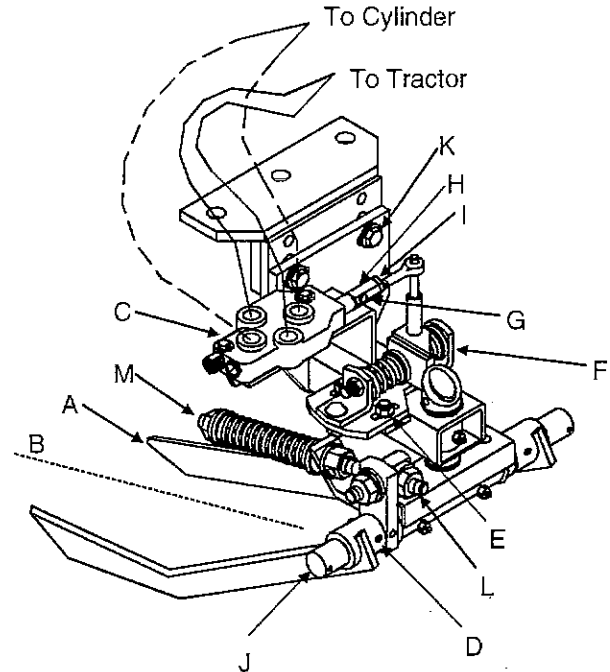

Figure 19. Row Finder.
The optional row finder helps keep your harvester on the rows. The feeler arms (Figure 19-A) rest astride the row (B) and follow the line of beets - sensing any changes in the direction of the row or the position of the harvester. Sideward movement of the feeler arms actuates the hydraulic valve (C), which controls oil flow to the row finder steering cylinder.
For this adjustment, refer to Figure 19. The feeler arms should be set so the largest beets will just pass through the opening, between the tips, while just touching each arm. To adjust the arms, remove the spring pins (D), set both arms at the same distance from the center line of the row for the desired width setting, then install the spring pins.
Refer to Figure 19. The horizontal shaft (J) in the row finder must be parallel with the front of the harvester frame to function accurately. Remove pin (G) and loosen the nuts (E), then slide the plate (F) until the shaft is parallel with the frame. Tighten the nuts.
To change the row finder height by more than 1", remove the four (4) bolts (Figure 19-K) attaching the row finder frame to the support plate. Bolt the row finder to the holes that provide the desired operating height. Tighten the bolts.
**NOTE:** For less than 1" height adjustments, raise or lower the feeler arms by adjusting nuts (Figure 19-L).
The down pressure of the row finder is factory set at a spring length of 4-1/4". If the beet crowns are below the ground surface, adjust down pressure so the row finder arms penetrate the soil. To increase the down pressure, turn lock nut (Figure 19-M) to compress the spring.